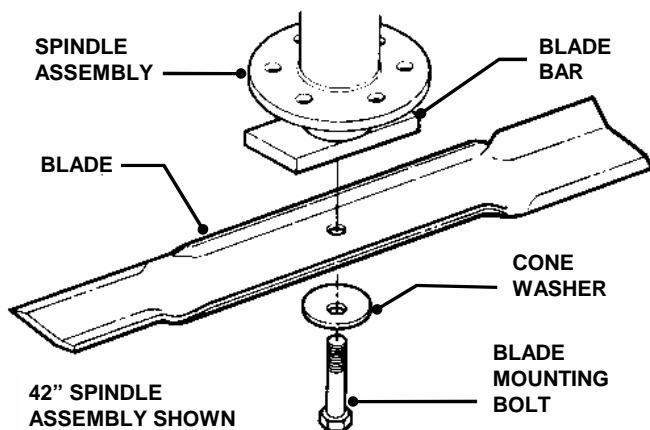

FIGURE 4.17
5. Remove blade mounting bolts on 42" decks or nuts on 48" decks. See Figure 4.17.